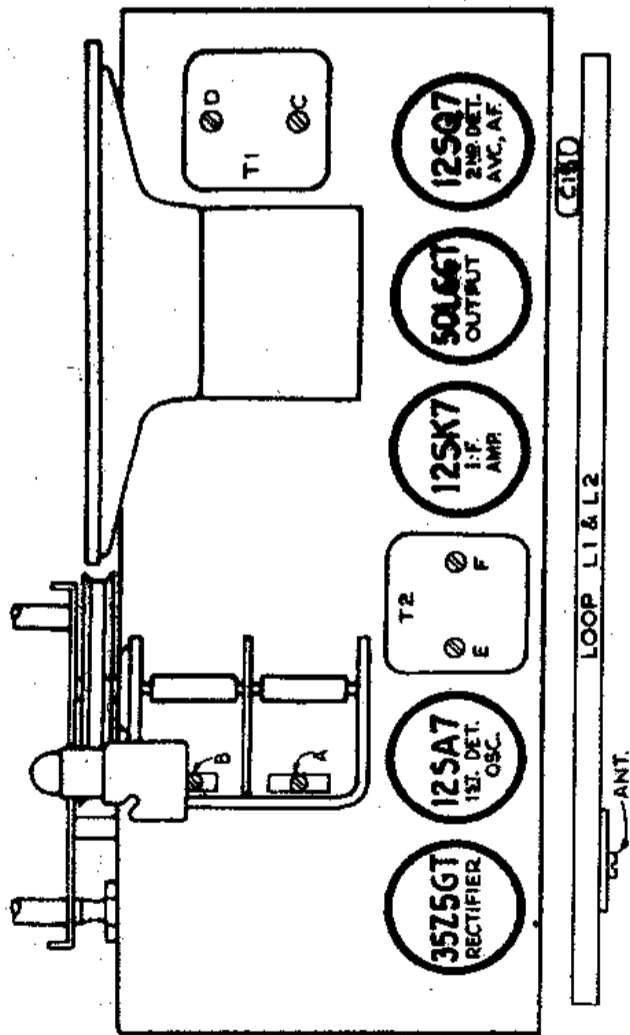

FIG. 3--PARTS LAYOUT--Top View
- (e) Tune receiver to quiet point at 1,600 KC end of dial, set volume control full on, adjust the trimmers on the second I-F transformer (illus. E & F Fig. 3) for maximum output.
- (g) Adjust the trimmers on the first I-F transformer (illus. C & D Fig. 3) for maximum output.